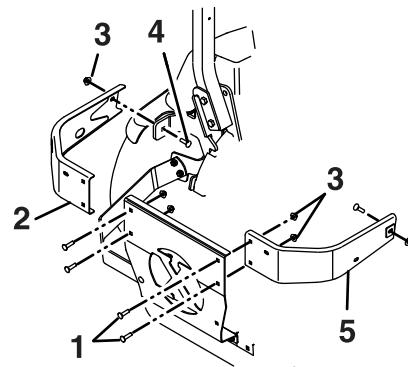

Figure 5
1. Remove the rear bumpers and hardware from the mower. Retain the four 3/8-16 x 1 3/4 inch carriage bolts (item 1 in Figure 5).
2. Install the new reinforced LH and RH rear bumpers using the hardware shown in Figure 5.